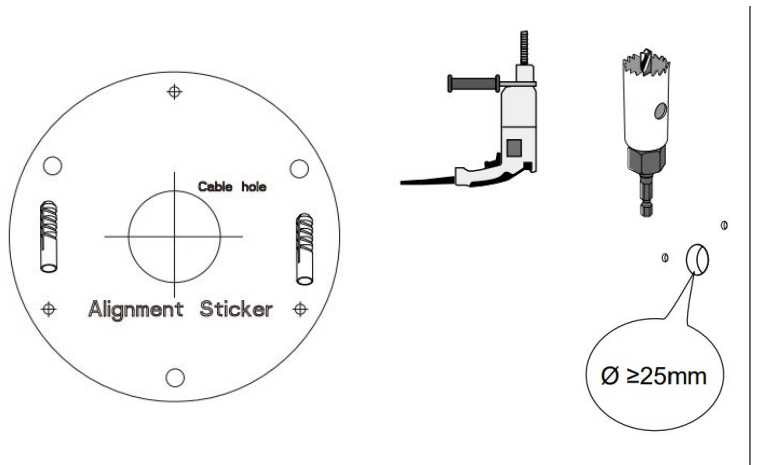

Figure 1-1
Step 1 Use the included position map and drill the appropriate mounting holes and cable exit. See Figure 1-1